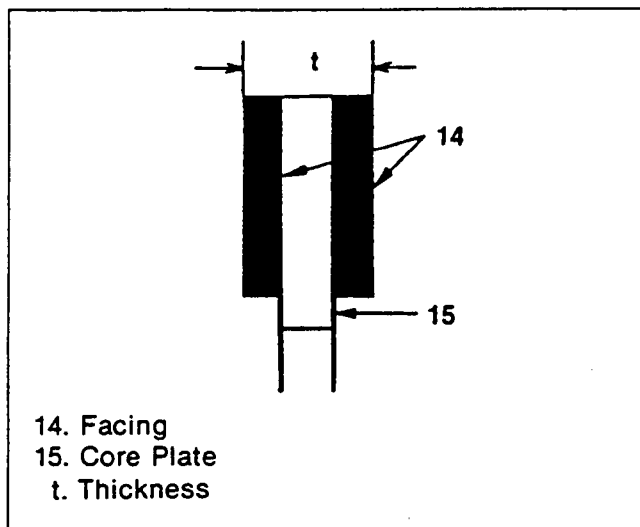

Figure 134. Drive Plate Facing Check
Inspect (Figures 134 and 135)
1. If one of the plates are burned, all plates should be replaced. If they are not burned, measure the thickness of each Drive Plate. If any one of the plates is out of specification, all plates must be replaced (figure 134).